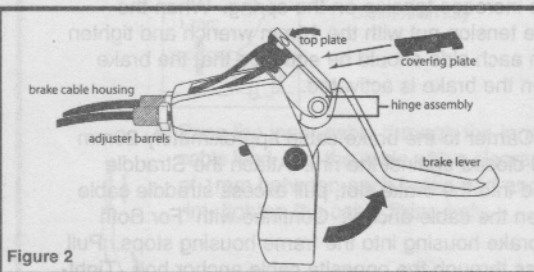

Figure 2
4. Insert the brake cable around the lower cable roller assembly. (Figure 2). Reassemble the lower cable roller assembly with the top plate. Be sure to pull the lower cable assembly up away from the hinge assembly. Make sure the cable roller is locked into place with the top plate.